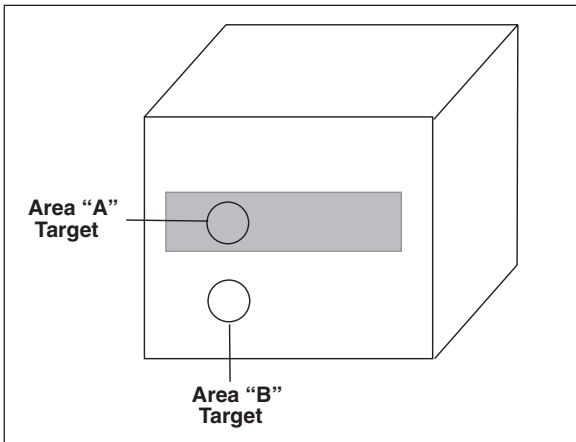

Figure C-1. Determining Emissivity
3. Set the emissivity of the thermometer to 0.95. Use the thermometer to measure and record the temperature of the masking tape - Area "A" in Figure C-1. Make sure that the area of the object covered with masking tape fills the FOV of the thermometer.
4. Aim the thermometer at Area "B" as shown in Figure C-1. Make sure that Area "B" is as close as possible to Area "A".
2. Set the emissivity to 0.97 and measure and record the temperature of the painted portion of the sample material - Area "A" in Figure C-1. Make sure that the painted area of object material fills the FOV of the thermometer.
3. Aim the thermometer at another spot on the target - Area "B" in Figure C-1.